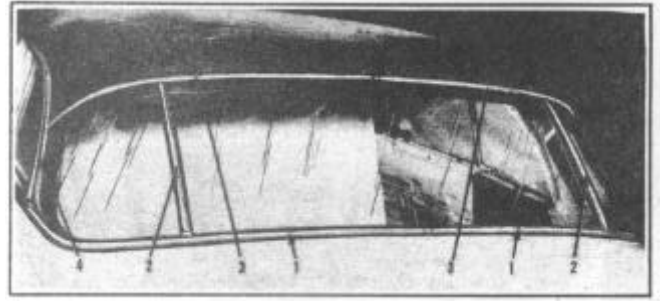

FIGURE 196
3. Using a wedge-shaped fibre tool, snap off the rear window exterior lower belt mouldings (1), Figure 196, right and left hand and remove the moulding retainers.
4. Snap off the right and left hand roof panel quarter mouldings (4) (held by two clips).
5. Remove the rear window exterior upper moulding and retainers (3).
12. Install the roof panel quarter mouldings, (4), Figure 196, the upper mouldings outer (3) and lower rear belt mouldings (1).
13. Install the rear window vertical mouldings (2) inner and outer.